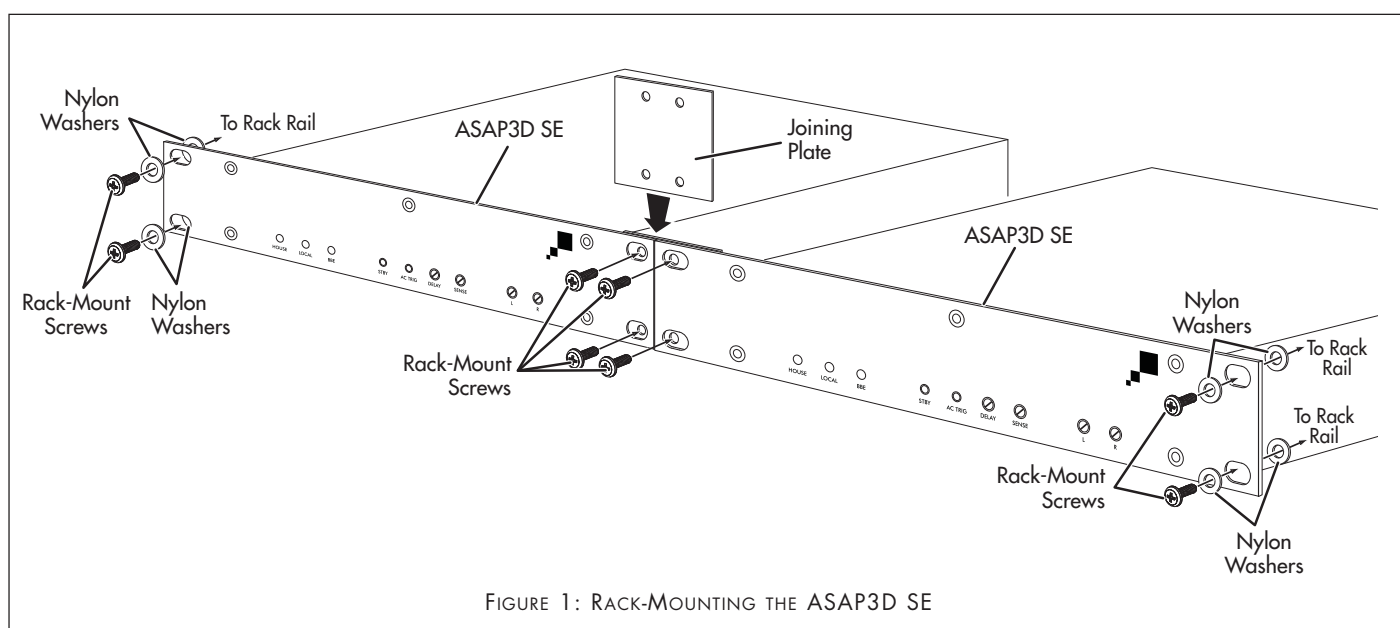

FIGURE 1: RACK-MOUNTING THE ASAP3D SE
- Use nylon washers on rack-mount screws to isolate the amplifiers from the rack rails (see *Figure 1*). This will help prevent ground loops and hum problems.
To rack-mount the ASAP3D SE (see *Figure 1*):